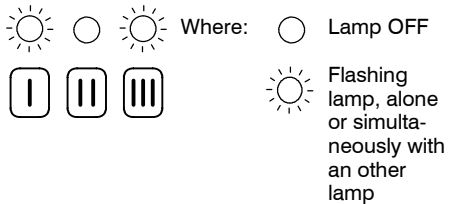

Fig. 7.8
- 7 Keep pressed the reset button 6 for about 5 seconds. The boiler runs and the lamp 5 is switched OFF. The lamps 9 give the indication as in Fig. 7.8